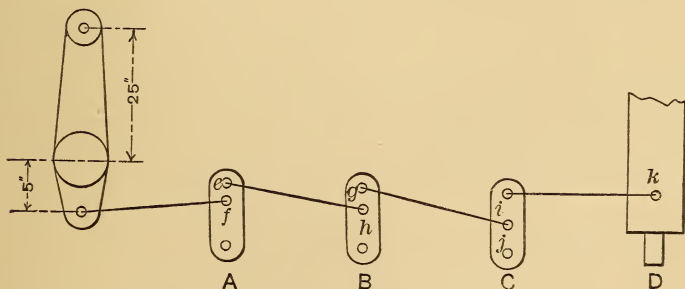

FIG. 94.--AMERICAN EQUALIZED BRAKE.
Q. What is the object of the markings shown on the hose (Fig. 94)?